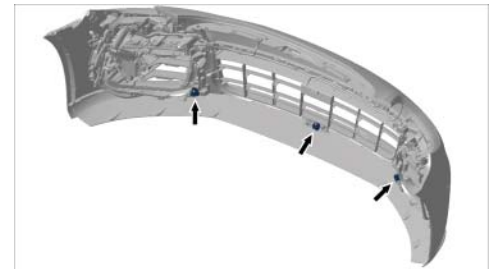

Figure 25
3.4.1 Convert middle pedestrian protection sensor (⇒ *Figure 25*).